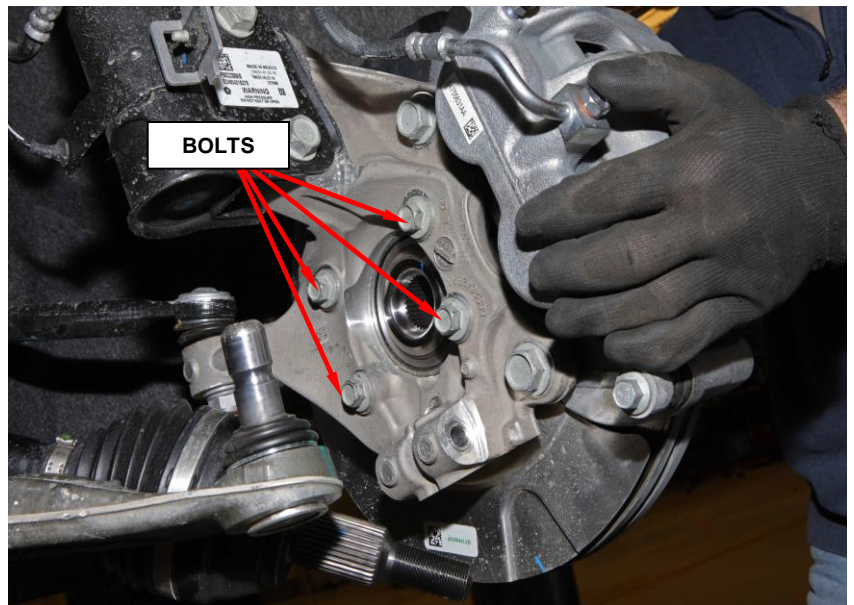

Figure 4 – Hub-to-Knuckle bolts
5. Swing the steering knuckle outward and off the halfshaft end (Figure 4).
6. Remove the loose hub-to-knuckle bolt(s) and **DISCARD** (Figure 4).